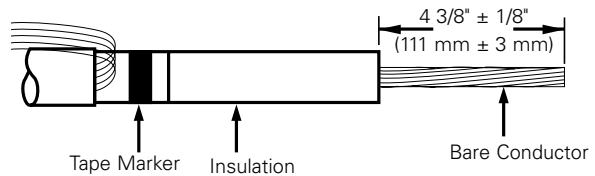

Figure 17. Line illustration of bare conductor length.
- Remove insulation exposing bare conductor to length of 4 3/8" (111 mm). Refer to Figure 17.